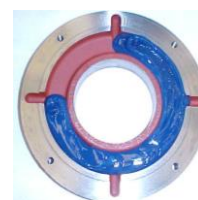

Figure 7.2: Outer bearing cap
- Fill up to $\frac{3}{4}$ of the inner and outer bearing cap deposits with the recommended grease (Figure 7.2) and lubricate the rolling bearing with enough grease before assembling it;